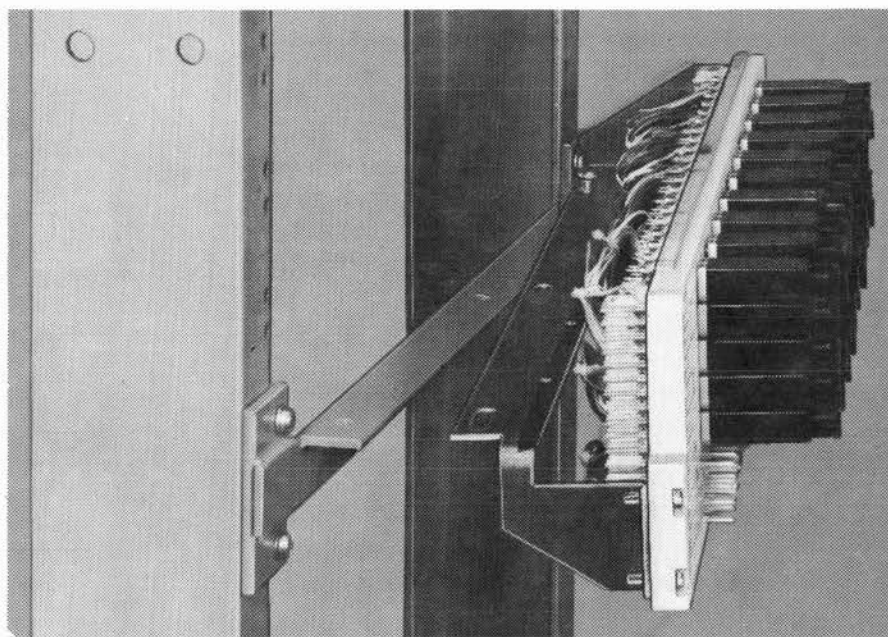

Figure 25
- 10.01 This bracket permits mounting the C-303 Connector horizontally on a 19-inch relay rack. Protection can be provided to carrier equipment and other relay rack mounted equipment not protected through the MDF. (See figure 25.)